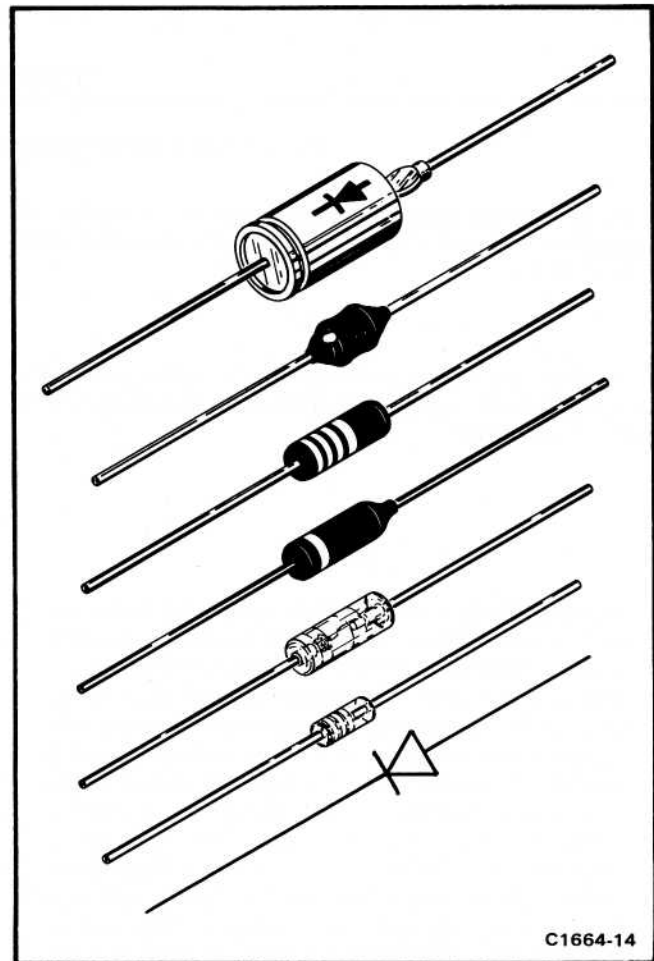

Fig. 5-3. Diode polarity markings.
**Diode Code.** The cathode of each glass-encased diode is indicated by a stripe, a series of stripes, or a dot. Some diodes have a diode symbol printed on one side. Fig. 5-3 illustrates diode types and polarity markings that are used in this instrument.